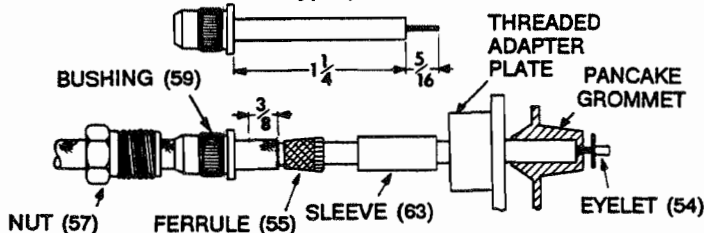

Figure 907
- (3) Pull lead and ferrule back into bushing. Braid should be flush with bushing.
- (4) Fully seat ferrule with braid into bushing using 11-10386 Ferrule Seating Tool.
- (5) Install sleeve (63) over insulation.
- (6) Insert lead into plate (42) and grommet, with inner conductor extending beyond end of grommet.
- (7) Screw nut into plate fingertight. (For ease of performing step 8).
- (8) Place eyelet (54) over conductor and crimp as described in paragraph 9.2.1, step L.
- (9) Tighten nut (57) using suitable wrench.
D. S-20 and S-200 threaded outlet types (see Figure 907).